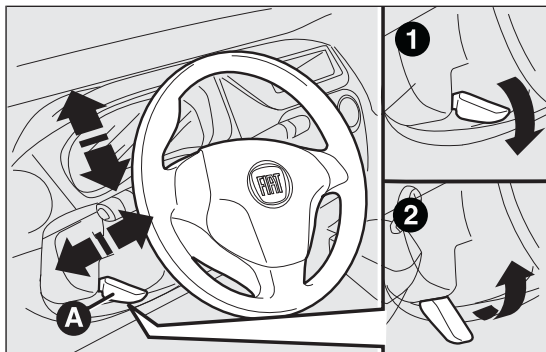

fig. 25
- ☐ release lever A fig. 25 by pushing it forwards (position 1);